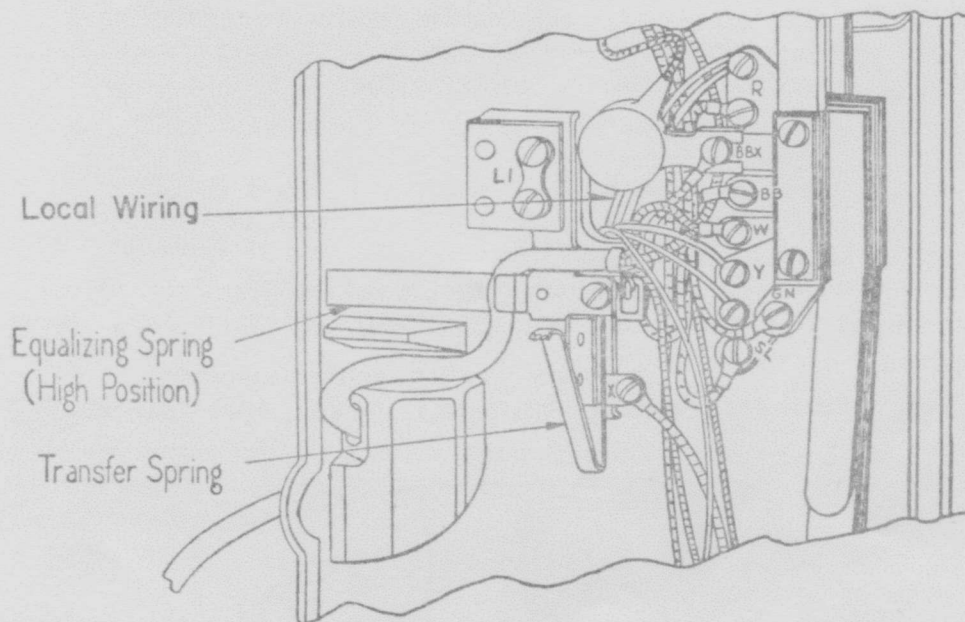

**Fig. 22—191, 195, 196, or 197-type Coin Collector—Lower Housing and Backplate Assembly**
**Note:** Wires to coin relay or hopper contacts same as in Fig. 22 or 25.